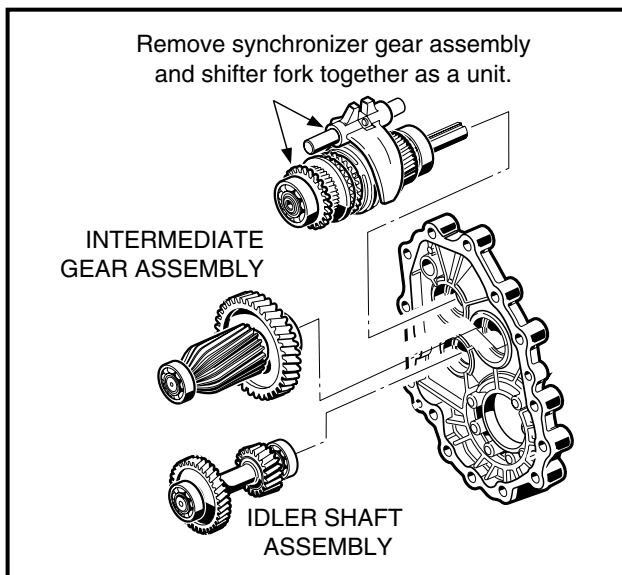

Figure 7-8 Remove Intermediate Gear
- Continue to rock and loosen the remaining gear assemblies until the intermediate gear assembly can be removed from the case. Then remove the idler shaft assembly (**Figure 7-8, Page 7-5**).
10. Remove the synchronizer gear assembly and shifter fork assembly as a unit from the case (**Figure 7-8, Page 7-5**).